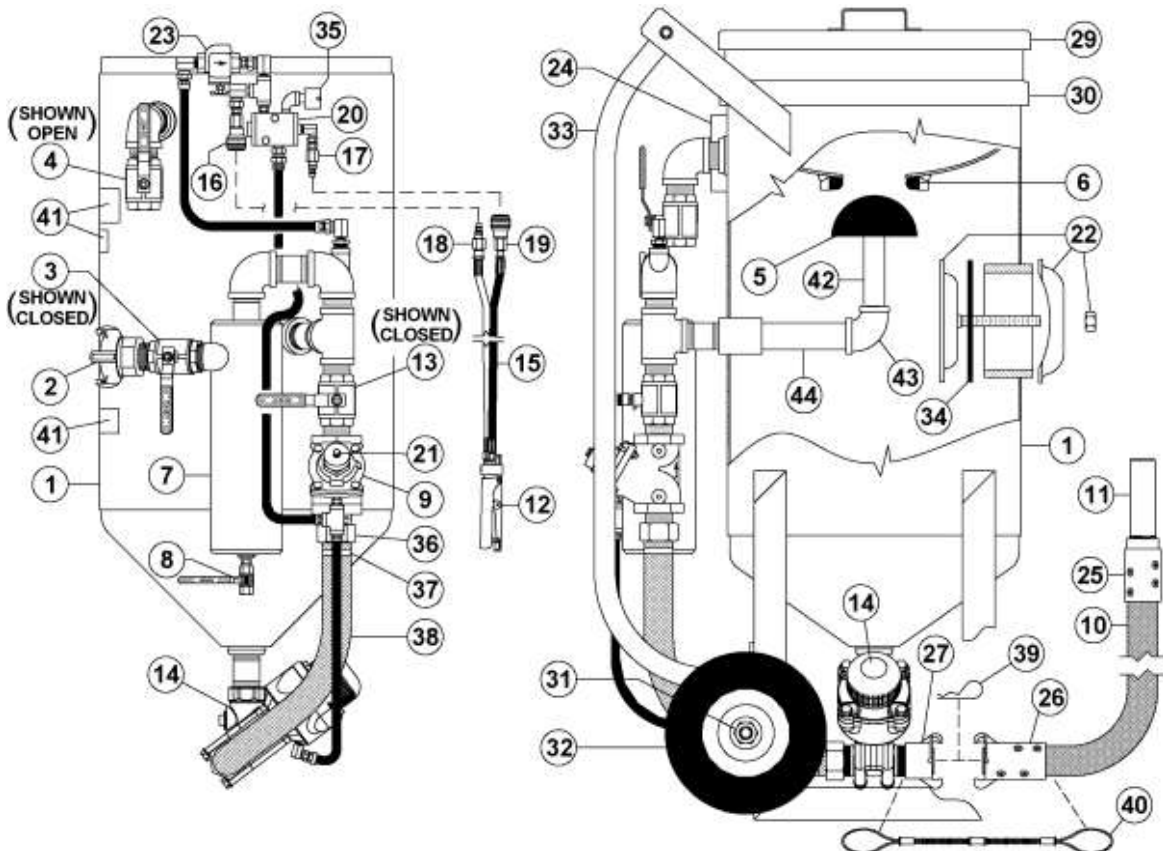

Figure 6.3 – Thompson®/Combo Abrasive Blaster with pneumatic blast controls
- 6.3.3. Close the air inlet ball valve (#3) to disable the blaster and the deadman blast control. The ball valve is closed when the handle is fully turned to the position shown in Figure 6.3 (handle perpendicular to body). The handle tab will bottom against the ball valve body in the closed position. **Note:** A faulty ball valve may allow air flow even in the closed position. Confirm air flow is stopped by opening the drain ball valve (#8) or by loosening the twinline connection (#18) to check for air flow. Replace faulty ball valves.